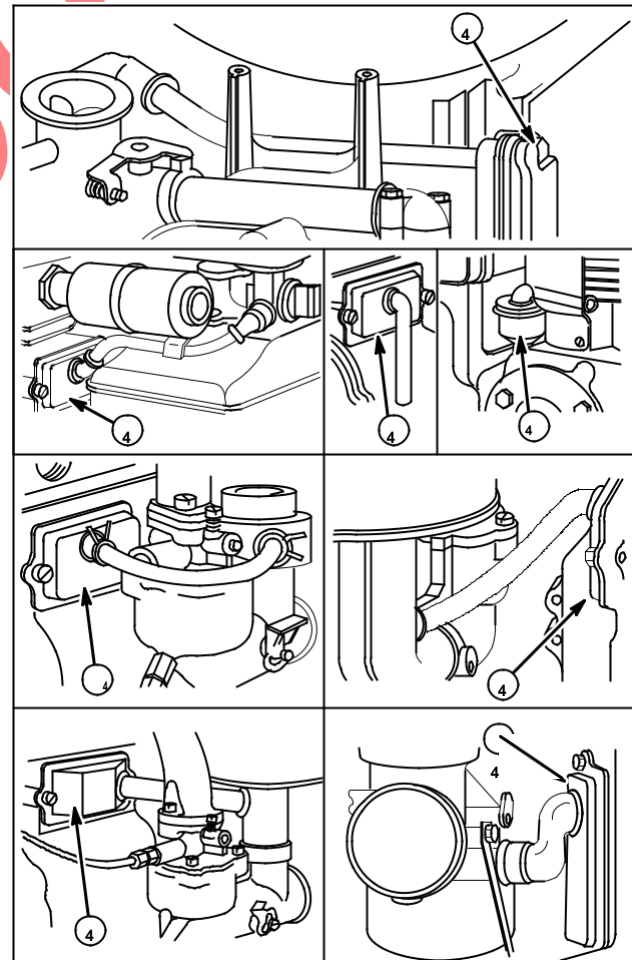

Fig. 6
Most breathers are vented through the air cleaner, to prevent dirt from entering the crankcase. Inspect venting elbows or tube for damage and effective sealing. Various breather assemblies (4) are illustrated in Fig. 6.